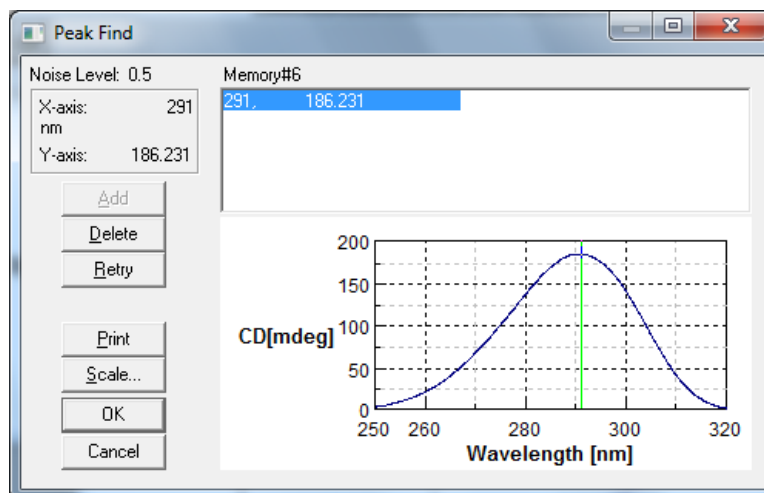

Figure 6. Processed d-10-Camphorsulfonic Acid NH₄ Salt.
- 6.1.1.3 Then go to 'Processing' in the menu and select 'Peak Process>Peak Find'. From that window, select 'Top' in the drop down menu for 'Peak', set the 'Noise' level to 0.5, and select 'Execute' (Figure 6). Save the file with appropriate ID.